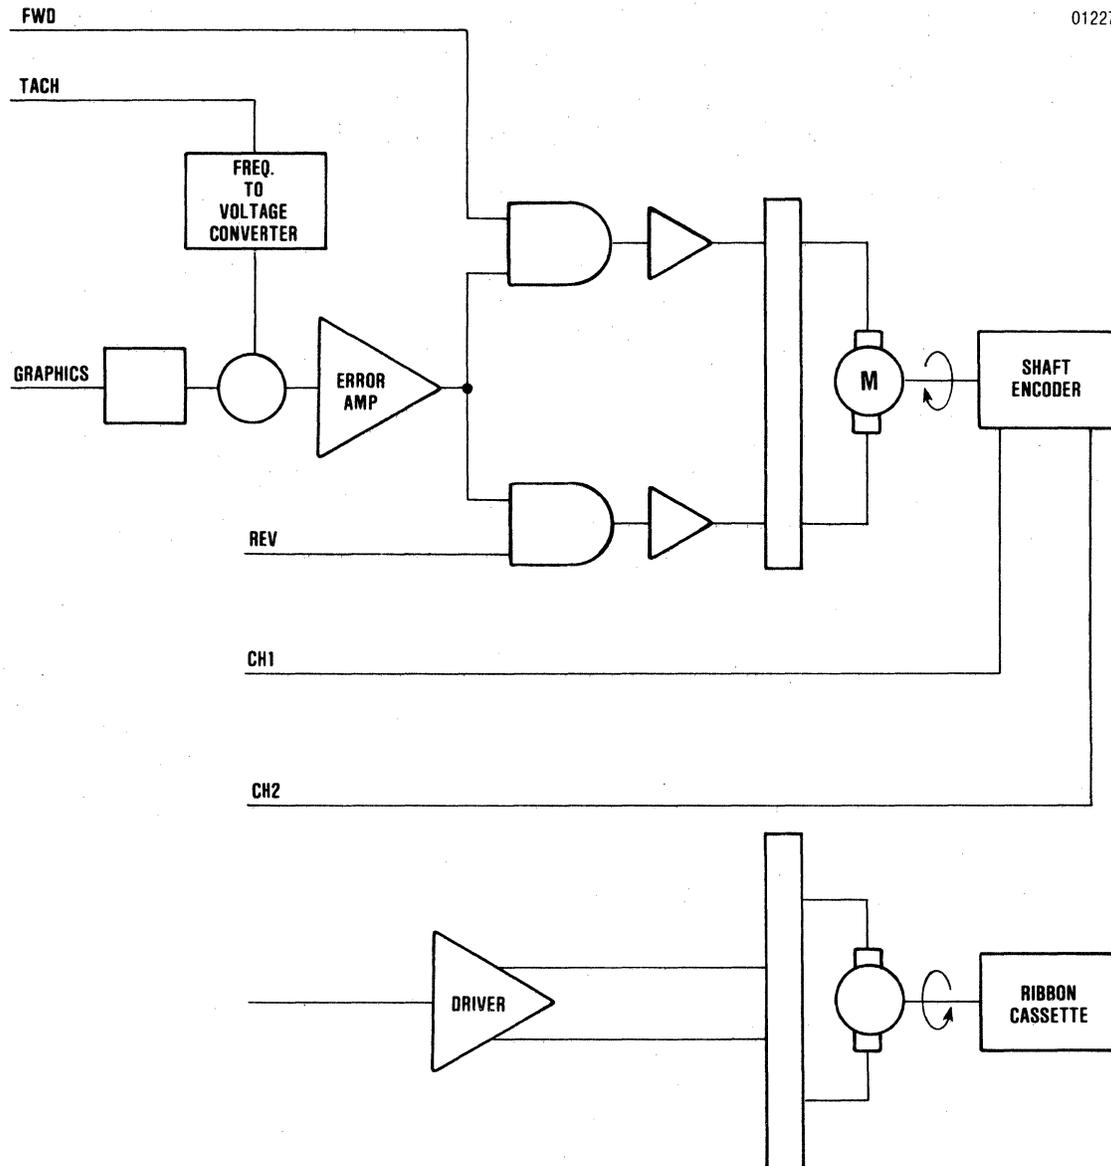

Figure 2-4 Carriage Drive and Ribbon Drive Circuits
2.12.3 PAPER FEED MOTOR DRIVE—Figure 2-4 shows a simplified schematic of the driver circuitry for the paper feed stepper motor. A pick and hold circuit is employed to get performance (high pick current) and low standby current (low hold current) with the bipolar, stepping motor used for paper motion. A chopper maintains the current level in the stepper motor. The pick signal sets a